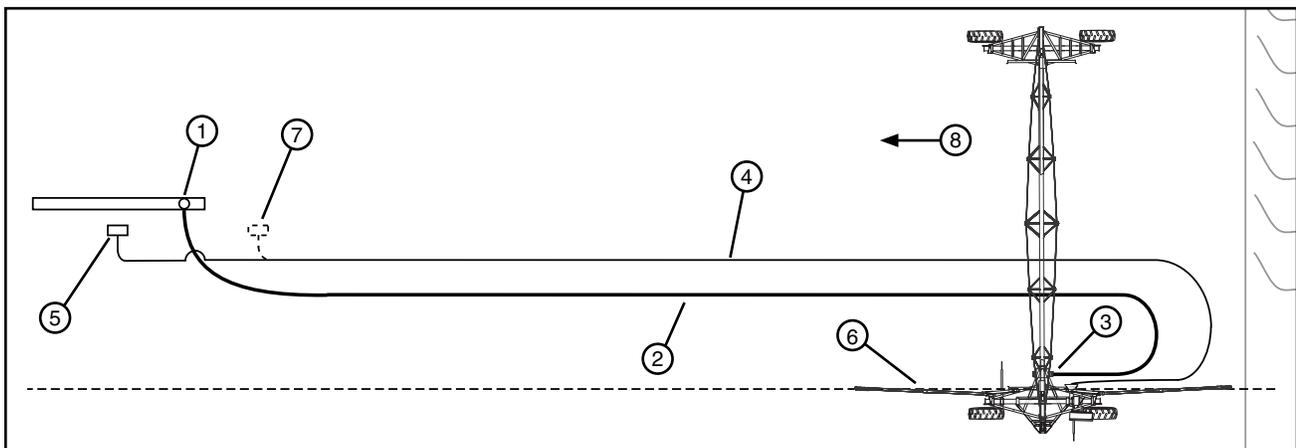

Figure 56-1 1. Shut Off Valve 3. Tee Inlet 5. Power Pedestal 7. Alternate Power Pedestal and Electric Cord Position
16. Position and connect a soft hose with pulling chains to the hard hose, then to the cart. DO NOT connect the hard hose directly to the tee inlet. See Figure 56-1.
17. Connect hose to the shut off valve. See Figure 56-1.